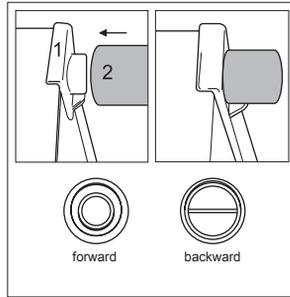

Figure 1. Installation of limit stops
- Install the limit stops to the upper corners on the rear wall of the refrigerator as shown in Fig. 1. The stops are supplied in the door basket inside the refrigeration compartment;